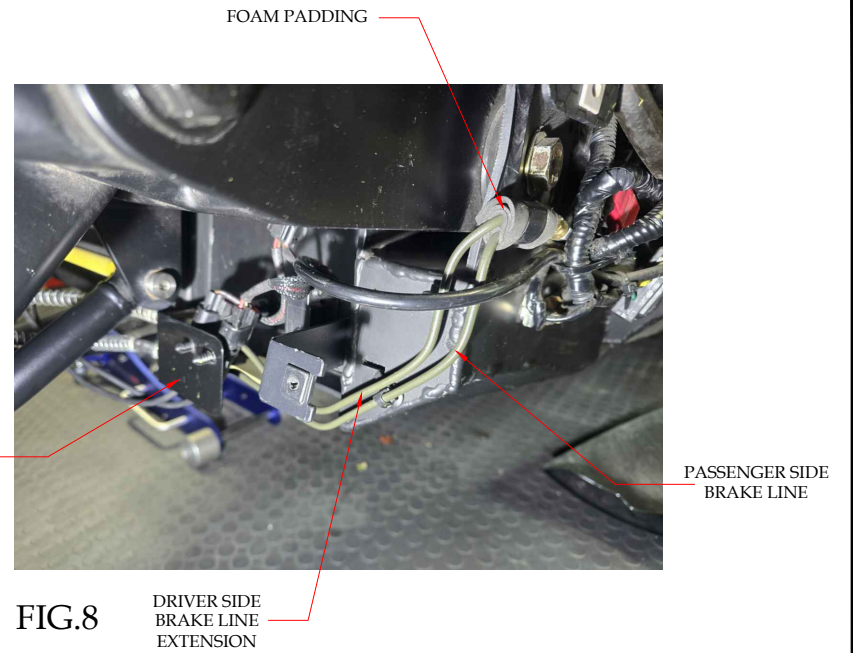

FIG.8
18. Bend the new brake line toward the lower flexible brake line as shown in FIG.8. Create a slight wave or loop in the line to provide additional length and allow for movement. Cut the line to the required length, slide the included flare nut onto the brake line and create a double flare.